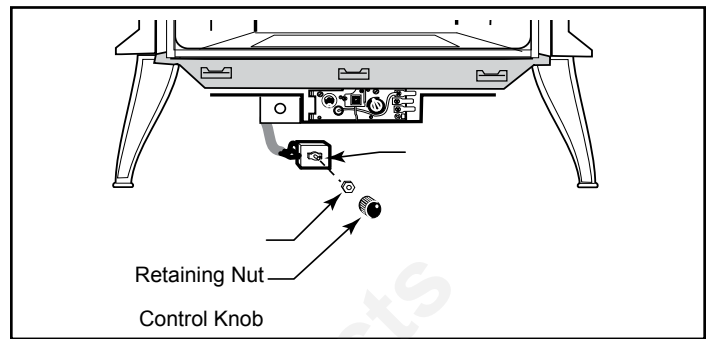

Figure 27 - Attach rheostat to left side of valve.
- Slide shroud assembly over the sides and fasten the four (4) screws loosened earlier.
- The rheostat control switch attaches to the left side of the valve bracket at the front of the stove. (Figure 27)